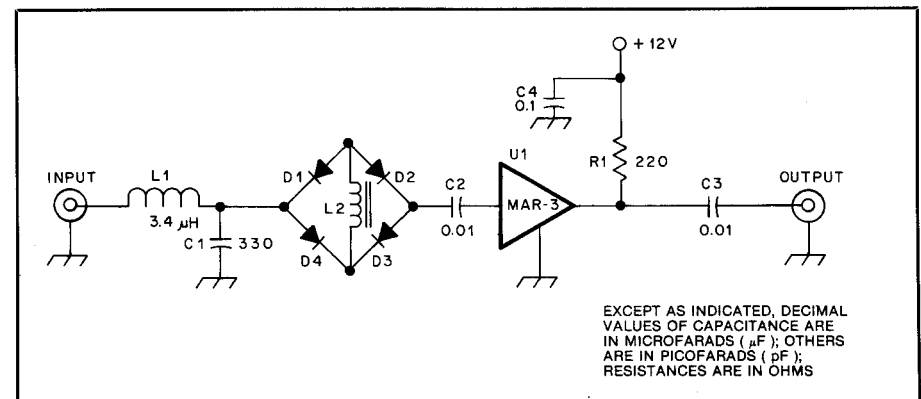

Fig 1—Schematic of the sine-to-square-wave converter.
Charles Wenzel won the second annual *rf design* Awards Contest with his implementation of an odd-order frequency multiplier circuit.1 Part of his circuit makes an excellent sine-to-square-wave converter for shaping a receiver local-oscillator (LO) signal. The revised circuit I've devised is shown in Fig 1. While using the same drive power to an SBL-1 mixer, the input intercept was raised from 11.5 dBm to 17.5 dBm by using the wave-shaping circuit. The intercepts are relative to a single tone. An HP453B equipped with an HP8482A power sensor was used to measure the drive power (11 dBm in both cases).